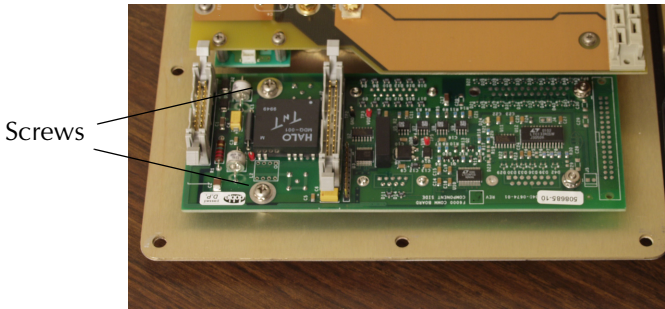

Figure 5.9 Communications Board Screws
- 2. Remove the two Phillips head screws that secure the communications board to the front panel (Figure 5.9).